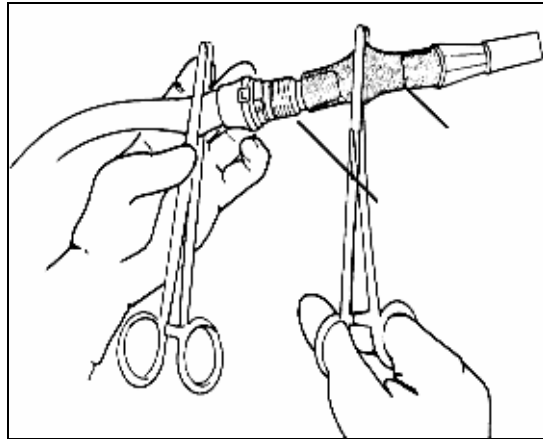

Figure 10: Clamping the Tubing
- 10** The Pump tubing and silicone connector are clamped (see Figure 10.)